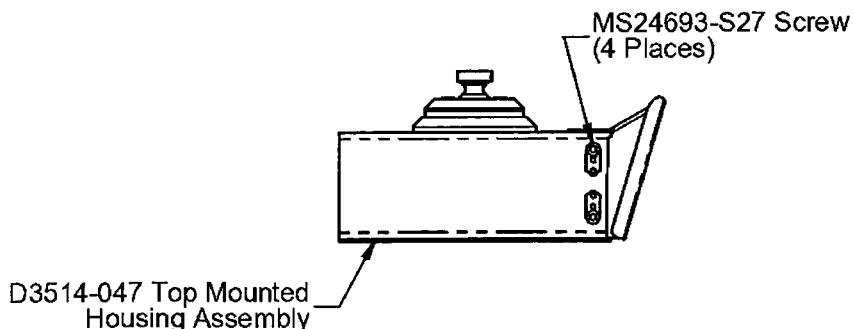

Figure 3.3.5 – Screws for Mounting GPS Unit (Detail A from Figure 1.2)
3.3.7 Install the GPS unit (not included in this kit). Install the GPS Mounting Box into the D3514-047 Top Mounted Housing Assembly using the qty (4) MS24693-S27 screws and the nutplates mounted on the D3514-047 Housing Assembly as shown in *Figure 3.3.5*.